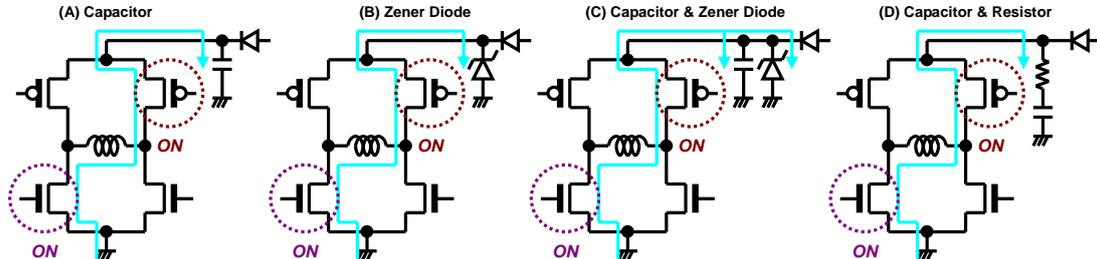

Figure 29. Measure Against VCC Voltage Rise
When the absolute maximum rated voltage may be exceeded due to the voltage rise by the back electromotive force, place a (A) capacitor or (B) Zener diode between the VCC pin and the GND pin for regenerative current path as shown in Figure 29. If further measures are necessary, use measures of (A) and (B) together like as (C). The capacitor and the resistor can be used to have better voltage surge protection like as (D).